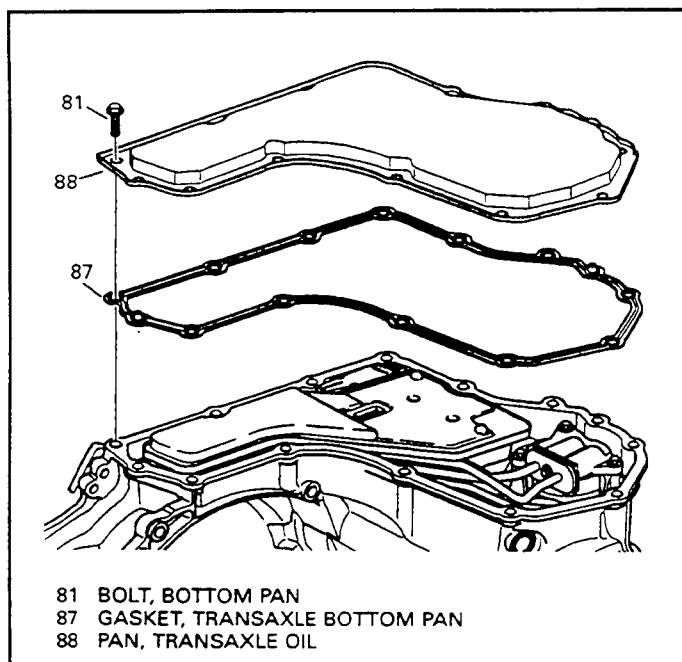

Figure 199
3. Install the bottom pan gasket and the bottom pan onto the transaxle as shown in Figure 199.
4. Install the twelve bottom pan bolts, hand start and then torque to 8 ft.lb. (See Figure 199).